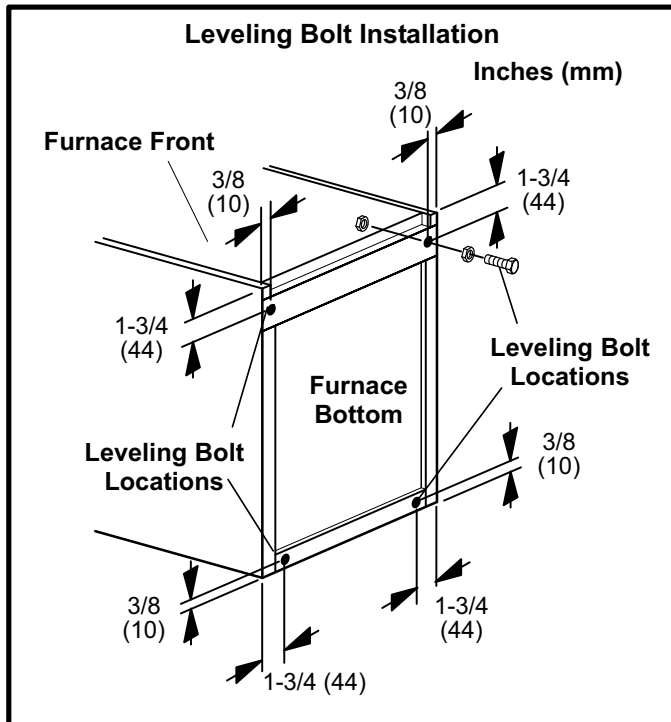

FIGURE 8
When the side return air inlets are used in an upflow application, it may be necessary to install shims on the bottom of the furnace. If desired, use field-supplied corrosion-resistant 5/16 inch machine bolts (4) and nuts (8) to level the furnace. See figure 8.
- 1 - Lay the furnace on its back and drill a 5/16 inch diameter hole in each corner of the furnace's bottom. See figure 8 for the correct location of the holes. Drill through the bottom panel and the bottom flange of the cabinet.